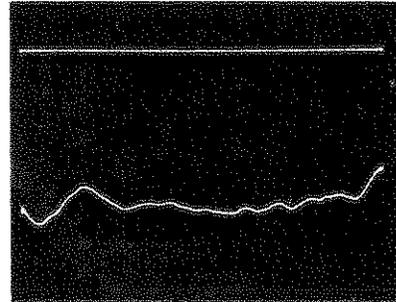

Figure 4-8. Typical Display with RF Blanking
- h. Oscilloscope display should be similar to typical display shown in Figure 4-8.